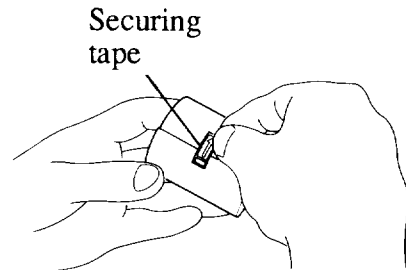

Figure 7-2
- (2) Remove the securing tape from the new paper roll (see Figure 7-2).